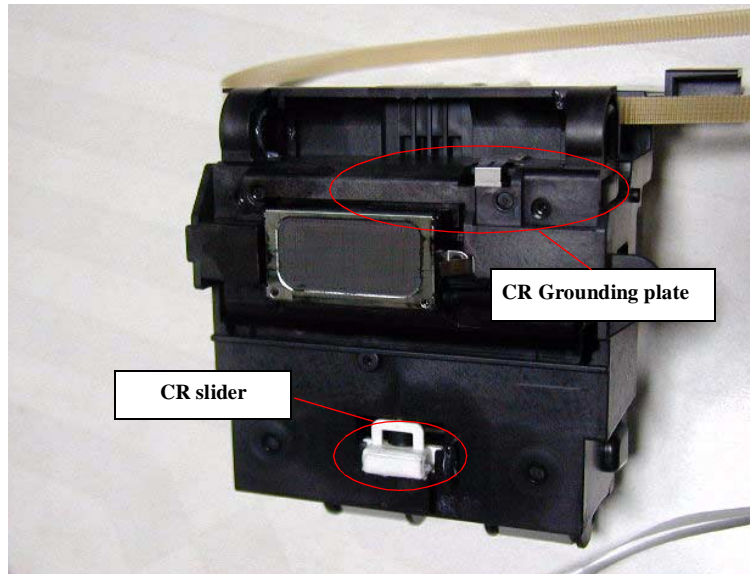

Figure 4-47. Grounding plate assembling position
- If you disassemble the CR unit after removing the CR unit from the printer, make sure that the CR Grounding plate is assembled in the suitable position in the CR unit. Refer to Figure 4-47.